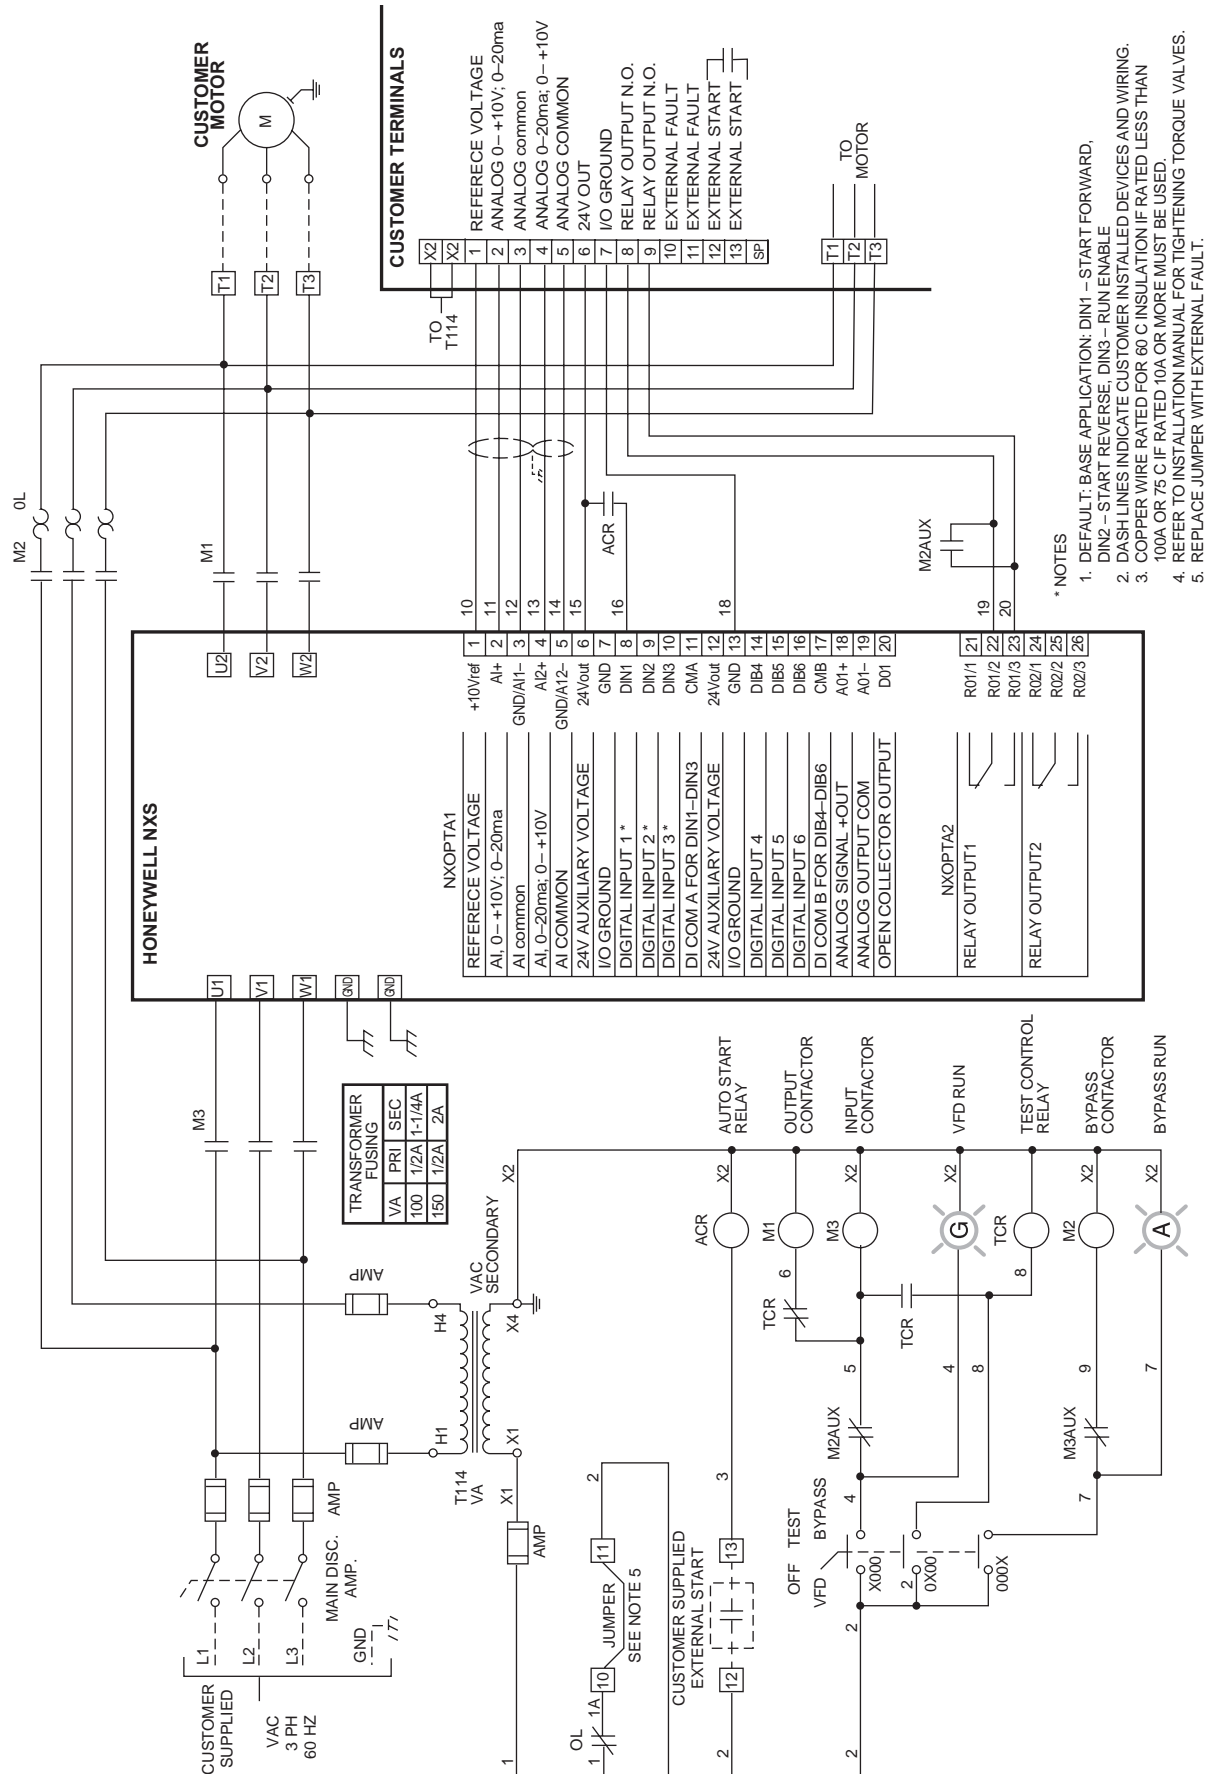

Fig. 1. NXS wiring.
3. Refer to Fig. 1 for typical wiring.